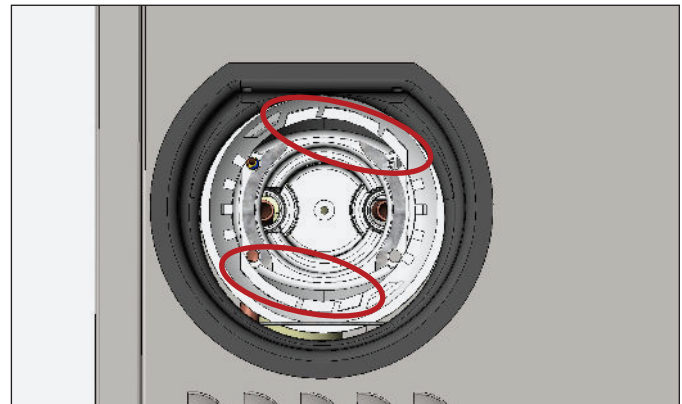

FIG. 2. Align the filter with the filter head's teeth.
7. Insert the replacement water filter and rotate the filter clockwise. See figs. 2 and 3.